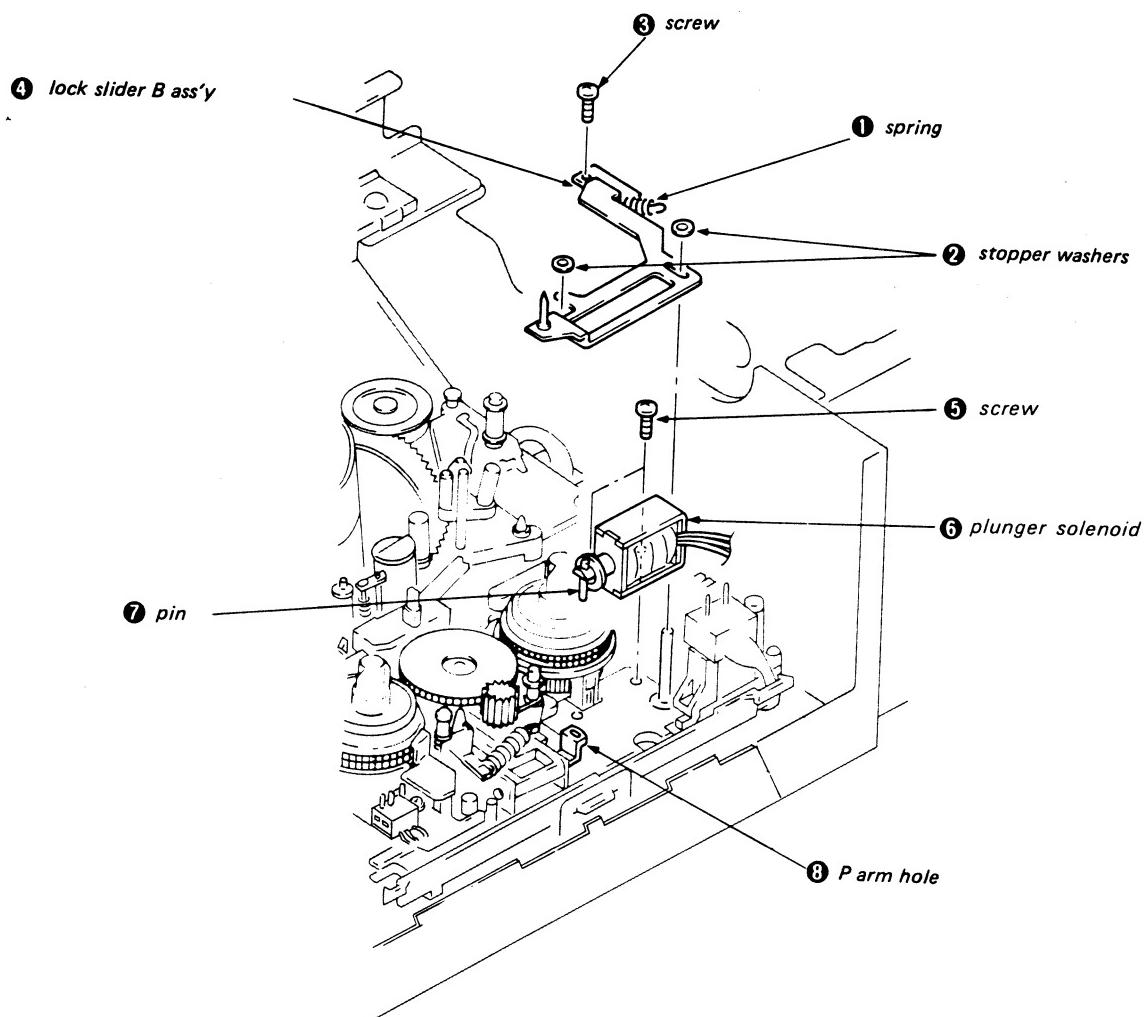

Fig. 3-32.
- 3) Remove spring ①.
- 4) Remove the two stopper washers ②.
- 5) Remove screw ③ and the lock slider B assembly ④.
- 6) Remove the two screws ⑤ and the plunger solenoid ⑥. (At this time, be careful not to scratch the T reel assembly with the screwdriver, and do not touch it.) (Fig. 3-32)
- 1) Insert the plunger solenoid pin ⑦ into the P arm hole ⑧ and mount with the two screws ⑤. (Again, be careful not to scratch or touch the T reel assembly.)
- 2) Mount lock slider B assembly ④ and tighten screw ③.
- 3) Mount the two stopper washers ②.
- 4) Hook on the spring ①. (Fig. 3-32)